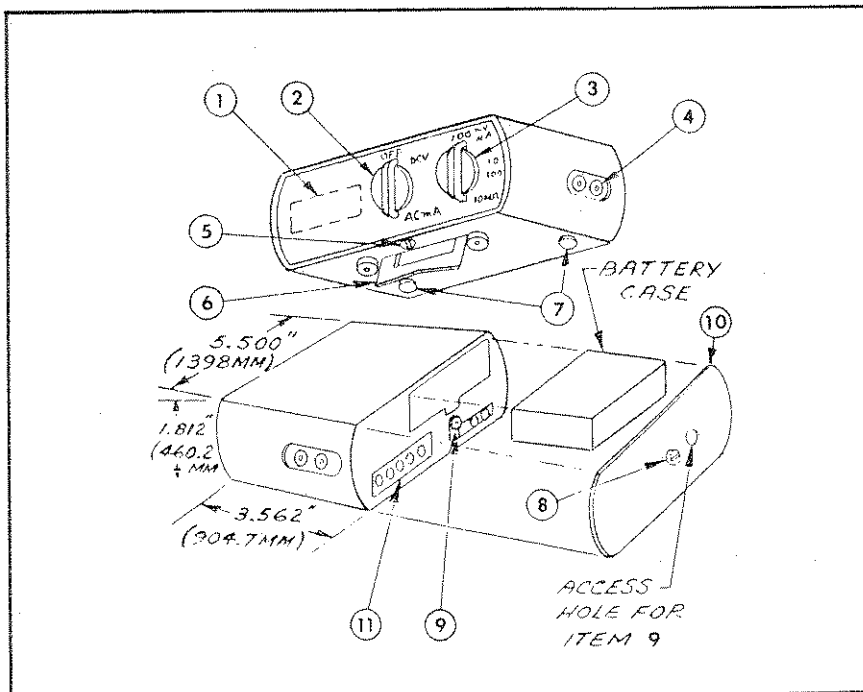

Fig. 2-1. Outline Dimensions & Features
2.3 KEY POINTS ON YOUR MODEL 248 DMM (Figure 2-1)